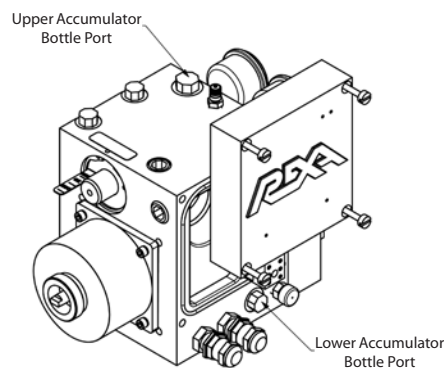

Figure 4.M.3.1-1 Power Module
5. Disconnect either port plug with the oil drain pan underneath. (Refer to Figure 4.M.3.1.) The oil level indicator should recede, forcing out oil from the removed port. If the indicator does not recede it may be necessary to push it in.